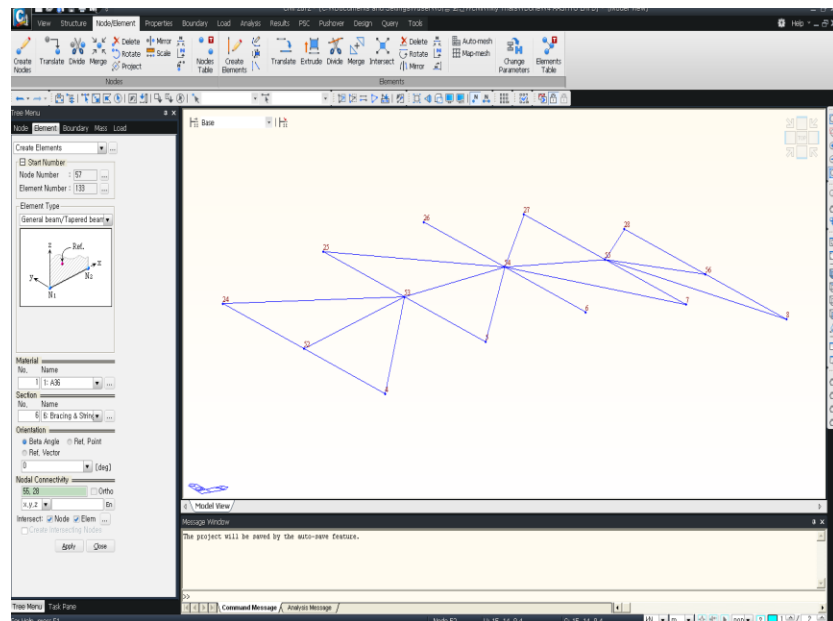

Figure 4.15 Completed Arch Bracings
12. Click the **Nodal Connectivity** field. Once the background color turns to pale green, connect separately nodes **4** and **53**, **24** and **53**, **5** and **54**, **25** and **54**, **54** and **7**, **54** and **27**, **55** and **8**, and **55** and **28** (Figure 4.15).